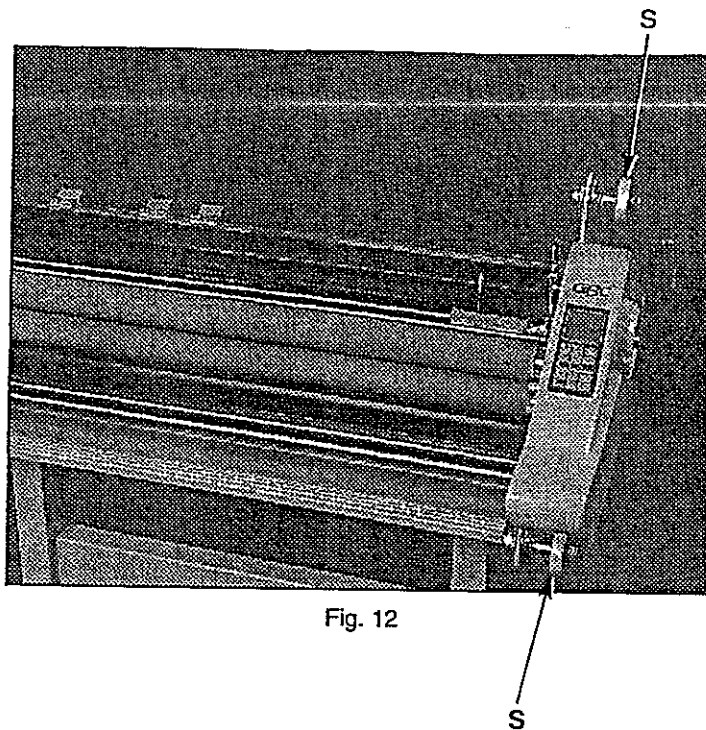

Fig. 12
1. The machine is equipped with external tension knobs (S) located on the right side of the film supply shafts, (Figure 12). Turning the knobs clockwise increases the tension while counterclockwise decrease the tension.